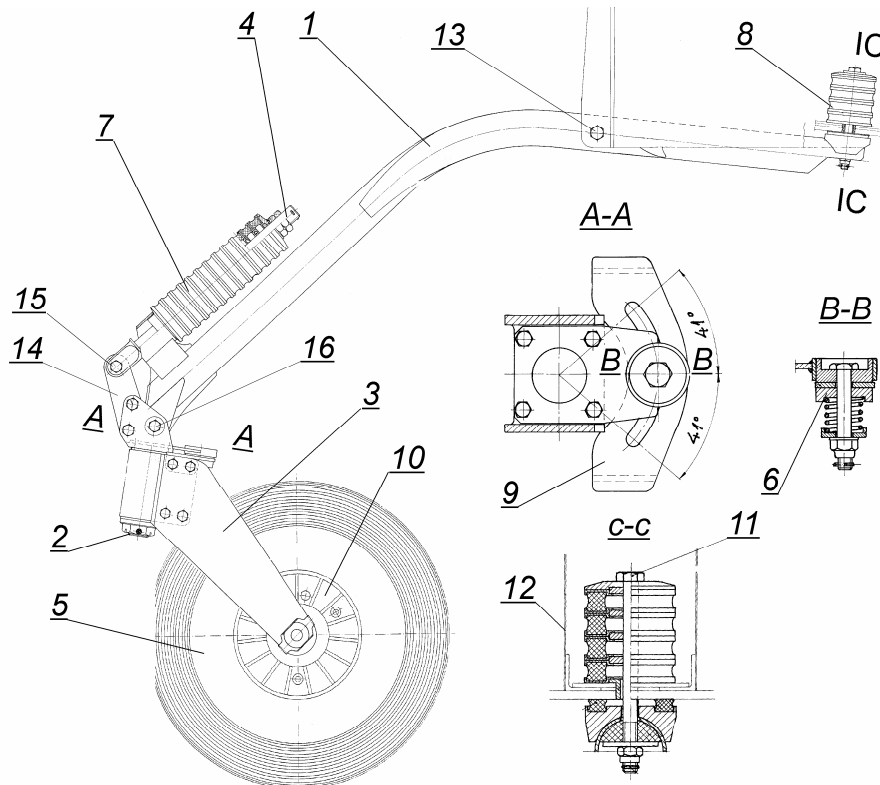

Figure 10-1 Nose landing gear
10.1 NOSE LANDING GEAR (see Figure 10-1)